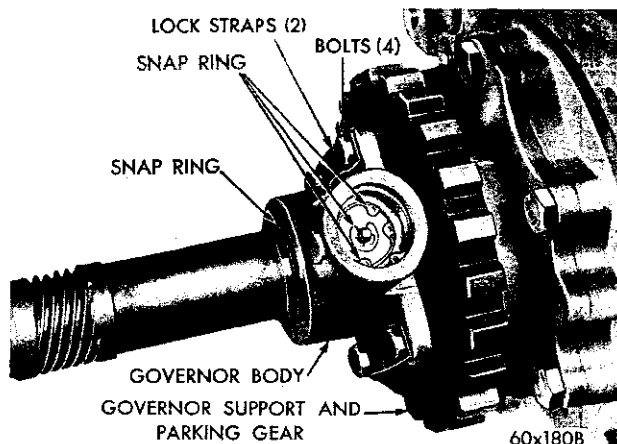

Fig. 37—Governor Shaft and Weight Snap Rings
(1) Remove the extension housing. See Paragraph 19.
(2) Using a screw driver carefully pry the snap ring from the weight end of governor valve shaft (Fig. 37). Slide the valve and shaft assembly out of the governor body.
(3) Remove the large snap ring from weight end
(2) Position the support and governor assembly on output shaft. Align the assembly so the governor valve shaft hole in governor body aligns with the hole in the output shaft, then slide the assembly into place. Install snap ring behind the governor body (Fig. 37). Tighten body to support bolts to 100 inch-pounds torque. Bend ends of lock straps over bolt heads.
(3) Assemble the governor weights and spring, and secure with snap ring inside of large governor weight. Place the weight assembly in the governor body and install snap ring.
(4) Place the governor valve on valve shaft, insert the assembly into body and through the governor weights. Install the valve shaft retaining snap ring. Inspect valve and weight assembly for free movement after installation.
(5) Install the extension housing, transmission flange and connect propeller shaft.
(6) Connect and adjust the parking lock cable. Refer to Paragraphs 7 and 11.